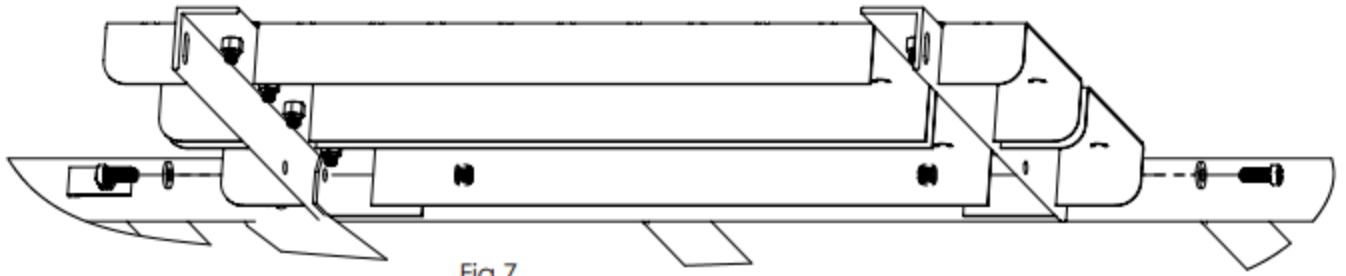

Fig 7
12. Attach the platform over the anchors in step 10 and secure with 2 - 3/8" x 1" bolt, 2 - 3/8" flat washer, & 2 - 3/8" nylon lock nuts. (Fig 7)